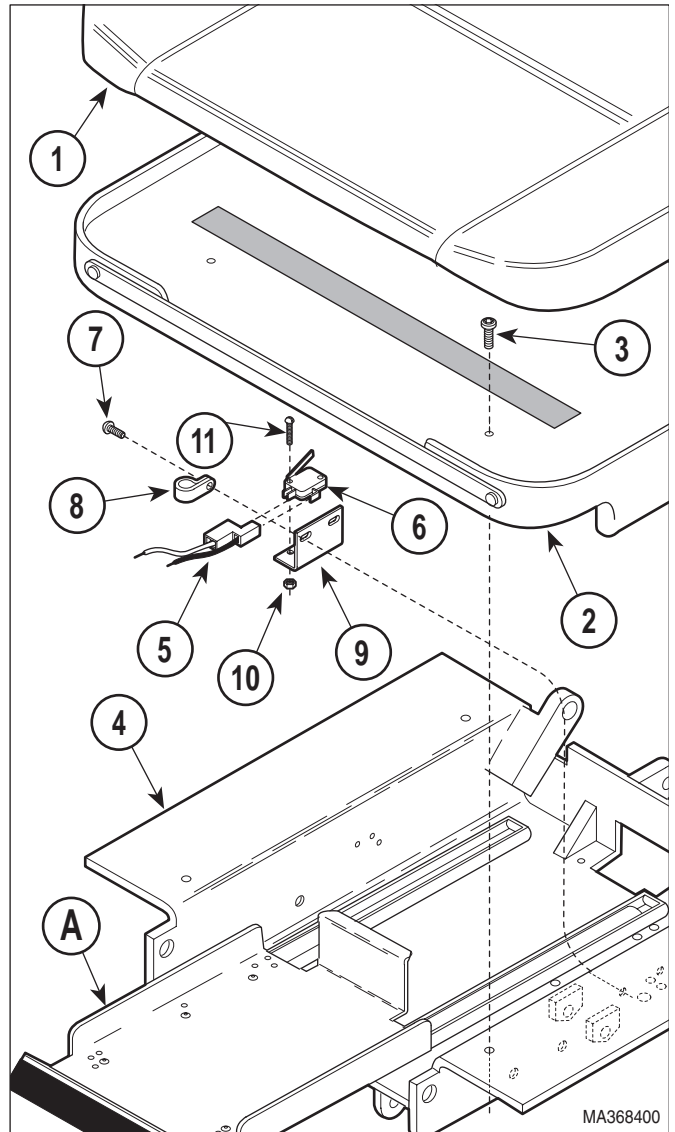

Figure 4-27. Pan Safety Limit Switch Removal / Installation / Adjustment
- (2) Unplug table power cord from outlet receptacle.
- (3) Remove upholstered seat (1, Figure 4-27) from seat board assembly (2).
- (4) Remove four screws (3) and seat board assembly (2) from seat weldment (4).
- (5) Pull pan slide assembly (A) out.
- (6) Disconnect wire harness (5) from pan safety limit switch (6).
- (7) Remove two screws (7), cable clamp (8), and pan switch bracket (9) from seat weldment (4).